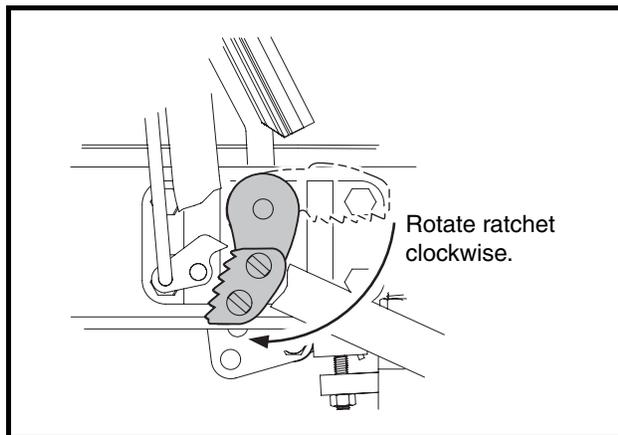

Figure 5-7 Ratchet Installation
8. Press the brake pedal slightly, and with the park brake ratchet oriented so that the tip of the ratchet is pointed toward the rear of vehicle, slide the ratchet onto the pivot rod (do not slide the ratchet onto the pivot rod splines). Release the brake pedal and allow the ratchet to rotate until its tip is pointed downward **(Figure 5-7, Page 5-8)**. The ratchet should now rotate freely on the rod.
8. Press the brake pedal slightly, and with the park brake ratchet oriented so that the tip of the ratchet is pointed toward the rear of the vehicle, slide the ratchet onto the pivot rod (do not slide the ratchet onto the pivot rod splines). Release the brake pedal and allow the ratchet to rotate until its tip is pointed downward (**Figure 5-7, Page 5-8**). The ratchet should now rotate freely on the rod.